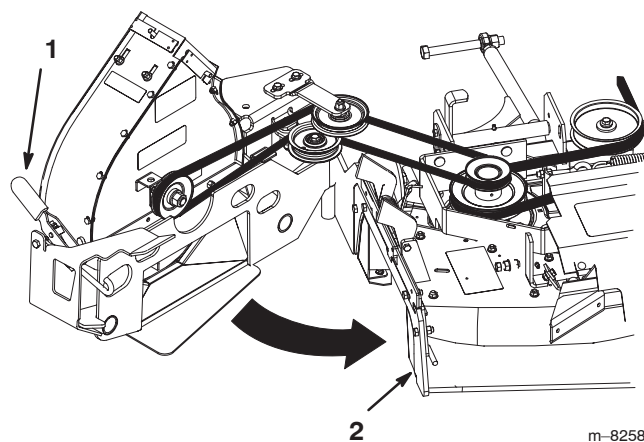

Figure 18
4. Close the blower assembly. (Fig. 18).
6. Close the blower assembly (Fig. 18).
11. Close the blower assembly and ensure the blower front latch engages onto the front peg (Fig. 18).